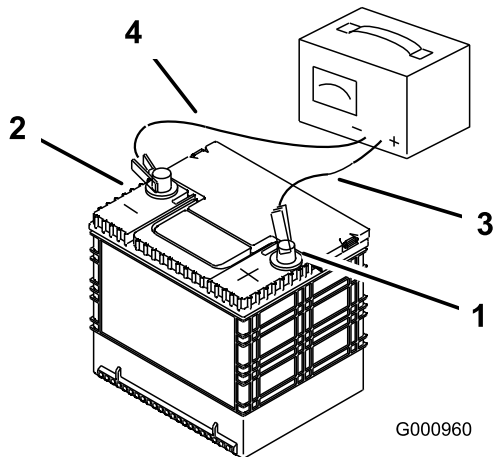

Figure 64
2. When the battery is fully charged, unplug the charger from the electrical outlet, then disconnect the charger leads from the battery posts (Figure 64).